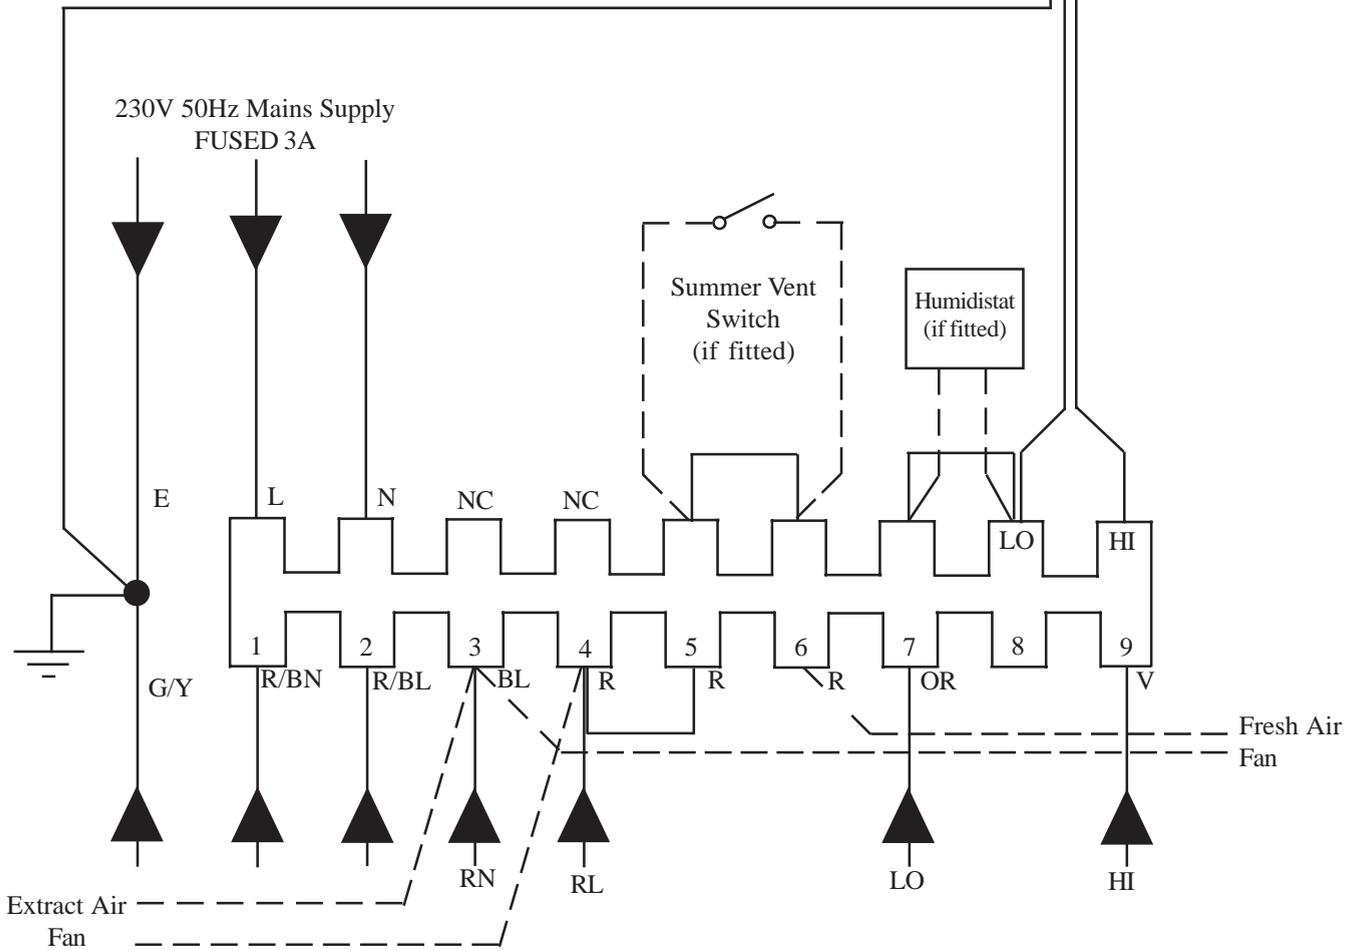

Fig. 3
- 2.5 **ELECTRICAL:** (refer to Fig. 3)
4.7.4 Replacement is in reverse order, reconnecting the module as shown in Fig. 3.